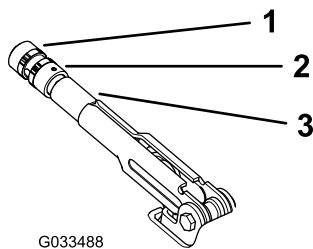

Figure 53
2. Loosen the set screw securing the knob to the parking-brake lever (Figure 53).
3. Rotate the knob (Figure 53) until a force of 20 to 22 kg (45 to 50 lb) is required to actuate the lever.
4. Tighten the set screw when finished (Figure 53).